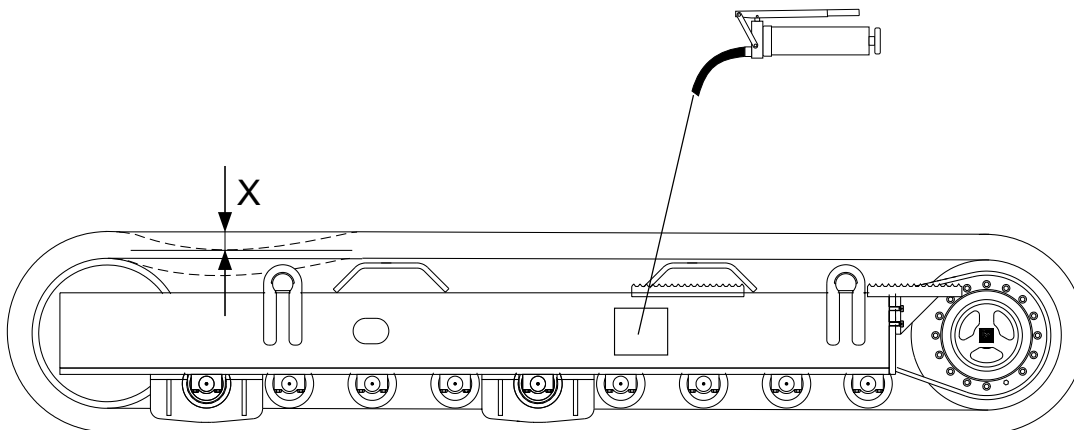

Figure 9.8.1 Check that the track chains are properly tensioned. The correct deflection (X) is 25 mm (1")
- Check that the track chains are properly tensioned (figure 9.8.1). Adjust as necessary. See the correct chain deflection in the drawing 8.8.1. Measure in the middle of main pulley and idler. To tension tracks pump more grease into regulating cylinder with a grease gun. Correspondingly, the tracks are loosened by letting grease flow out through the opened grease nipple and moving the Lokotrack if needed.